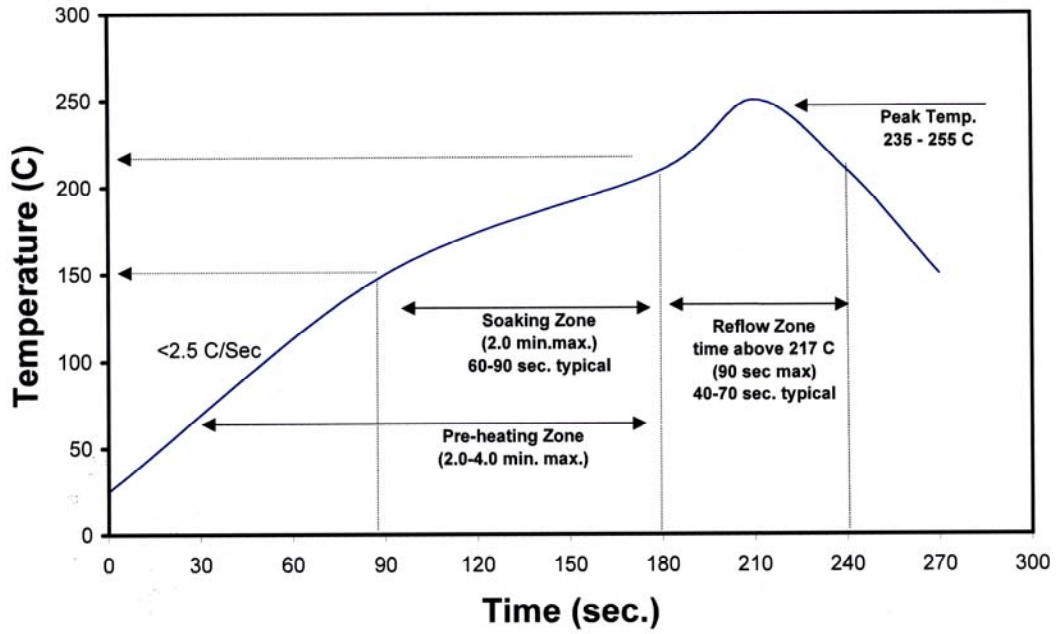

Figure 5: Reflow soldering profile for lead free soldering.
- Solder conditions per JEDEC 020c. See Reflow Soldering Profile Figure 5.